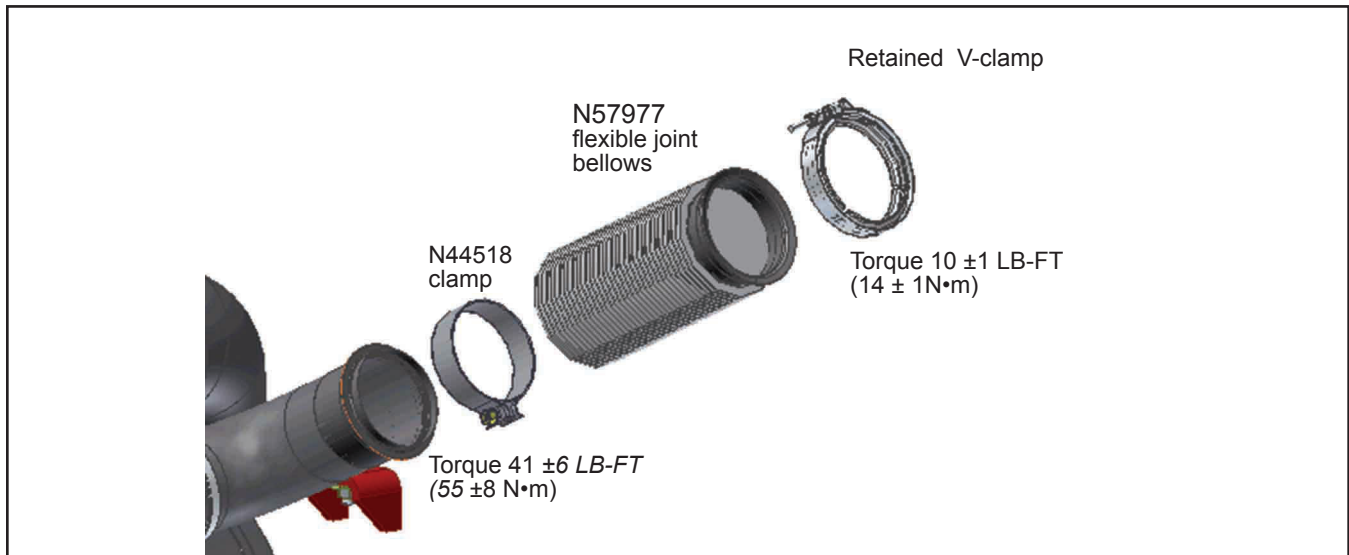

Figure 2 - Flexible Joint Bellows Assembly
- 1.10. Tighten to the torque specified in Figure 2.